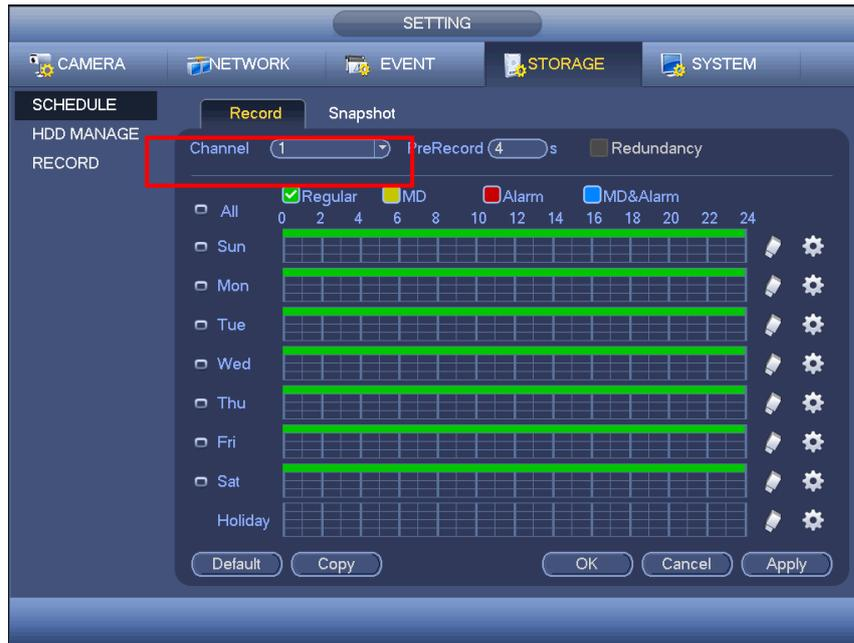

Figure 4-144
- In main menu, from Setting->Camera->Encode->Schedule interface, please enable snapshot function. See Figure 4-144.